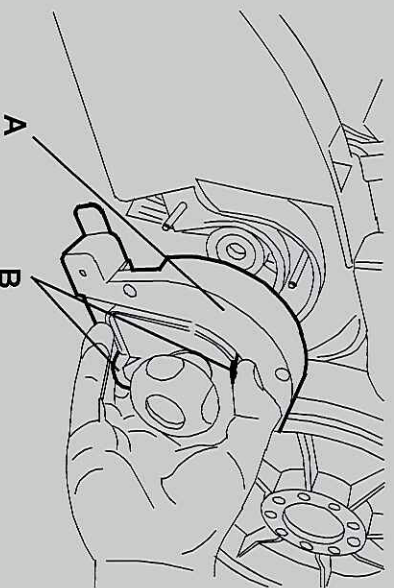
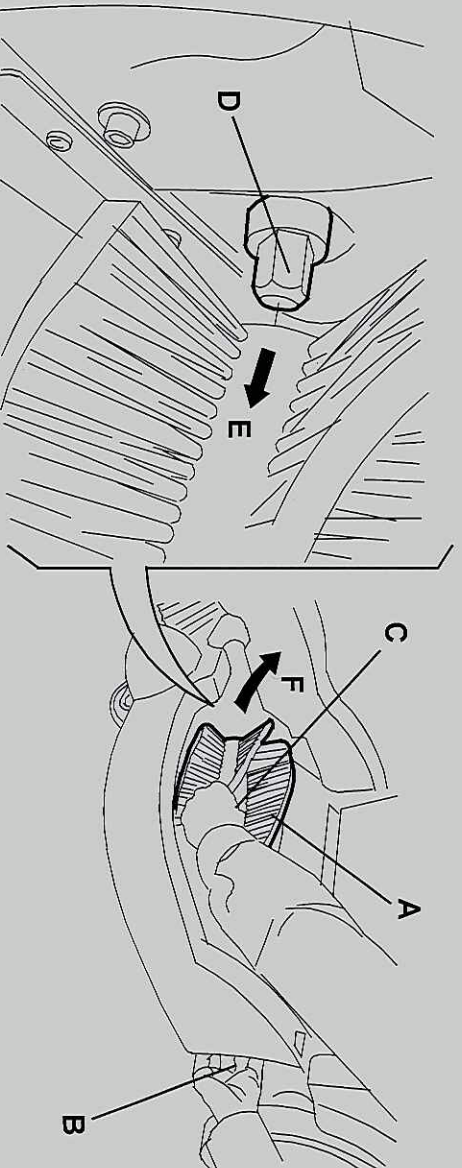

Figure 6
Figure 7
5. Remove the lid (A, Fig. 6) by grasping it on the points (B), Grasp the main broom (A, Fig. 7) on the points (B) and (C), then disconnect it from the drive hub (D) by pulling it in the direction shown by the arrow (E); then remove it in the direction shown by the arrow (F).